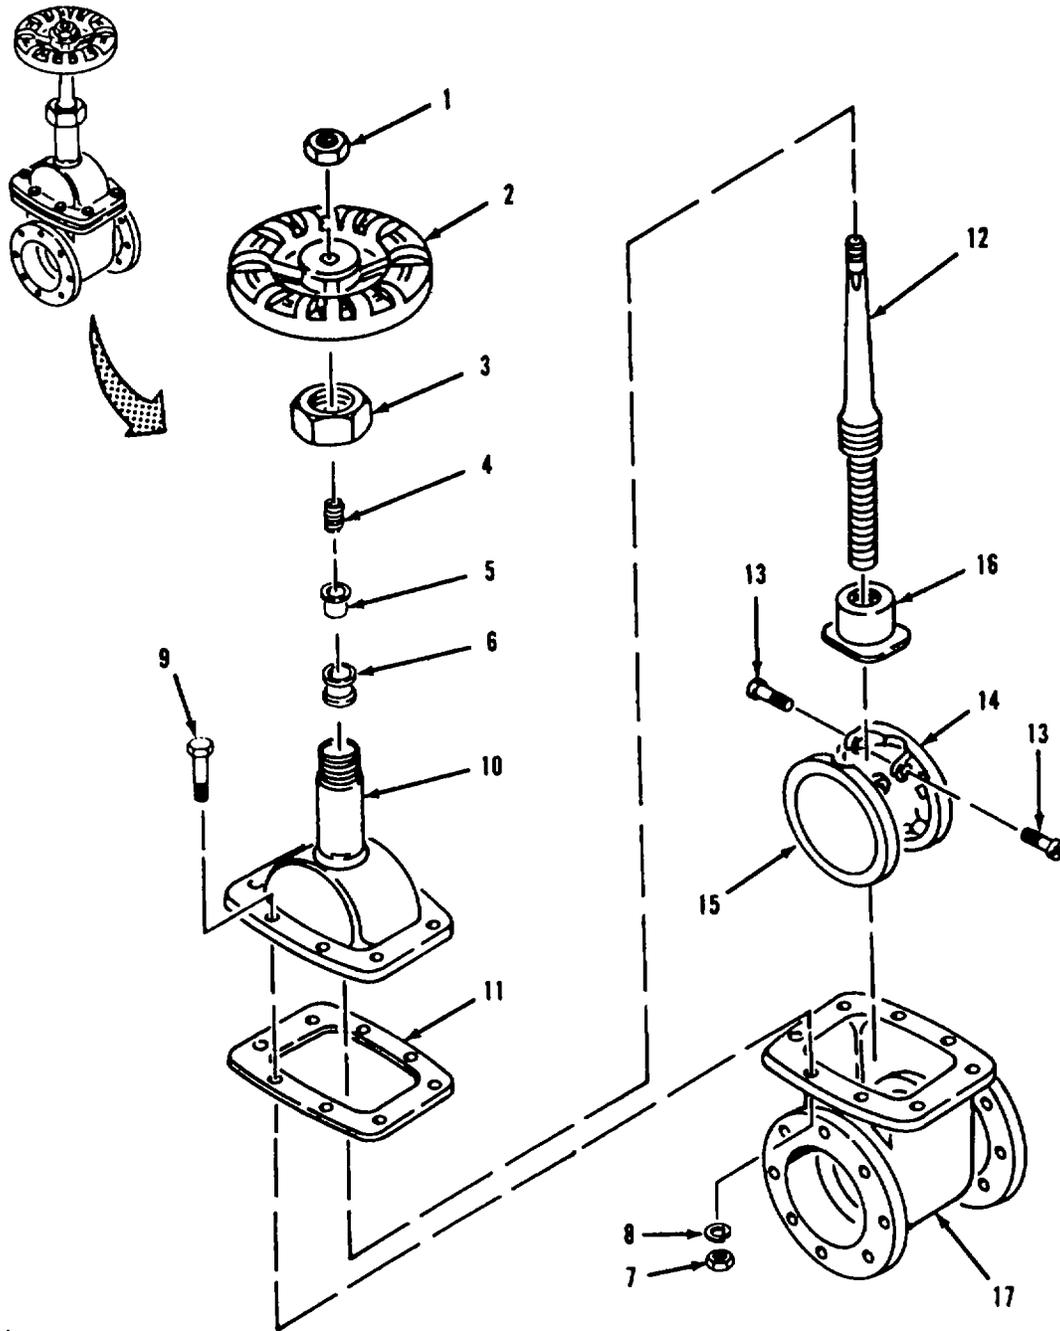

Figure 4-14. Gate Valve (4-Inch) Repair
- (1) Inspect bonnet (10) and valve body (17) for cracks, scored mating surfaces, stripped threads and corrosion.
- (2) Inspect for bent stem (12) for galled or stripped threads.
- (3) Inspect sealing surfaces of discs (14 and 15) and valve body (17) for deep scratches and cracks.
d. Repair. Replace damaged or defective parts. Do not reuse packing ring (6), flange gasket (11) or lockwashers (8).e. Assembly. Refer to Figure 4-14.
- (1) Screw stem (12) all the way into bottom of bonnet (10), then back out stem three full turns. Do not allow stem to move from this position.
- (2) While holding stem (12) in place, screw disc riser (16) onto stem until bottom of riser is flush with end of stem.
- (3) Position discs (14 and 15) on riser (16) and install two screws (13).
- (4) While preventing stem (12) from turning in bonnet (10), turn discs (14 and 15) and riser (16) counterclockwise onto stem until top of discs contact bottom of bonnet.
- (5) Position gasket (11) on valve body (17).
- (6) While holding stem (12) in position, lower bonnet (10) and discs (14 and 15) into valve body (17). Do not rotate discs more than 1/4 turn to align discs with body.
- (7) Install eight screws (9), lockwashers (8), and nuts (7), in valve body (17) and bonnet (10).
- (8) Slide packing ring (6) over stem (12) and down into bonnet (10).
- (9) Slide packing gland (5) and gland spring (4) over stem (12).
- (10) Slide packing nut (3) over stem (12) and tighten onto top of bonnet (10).